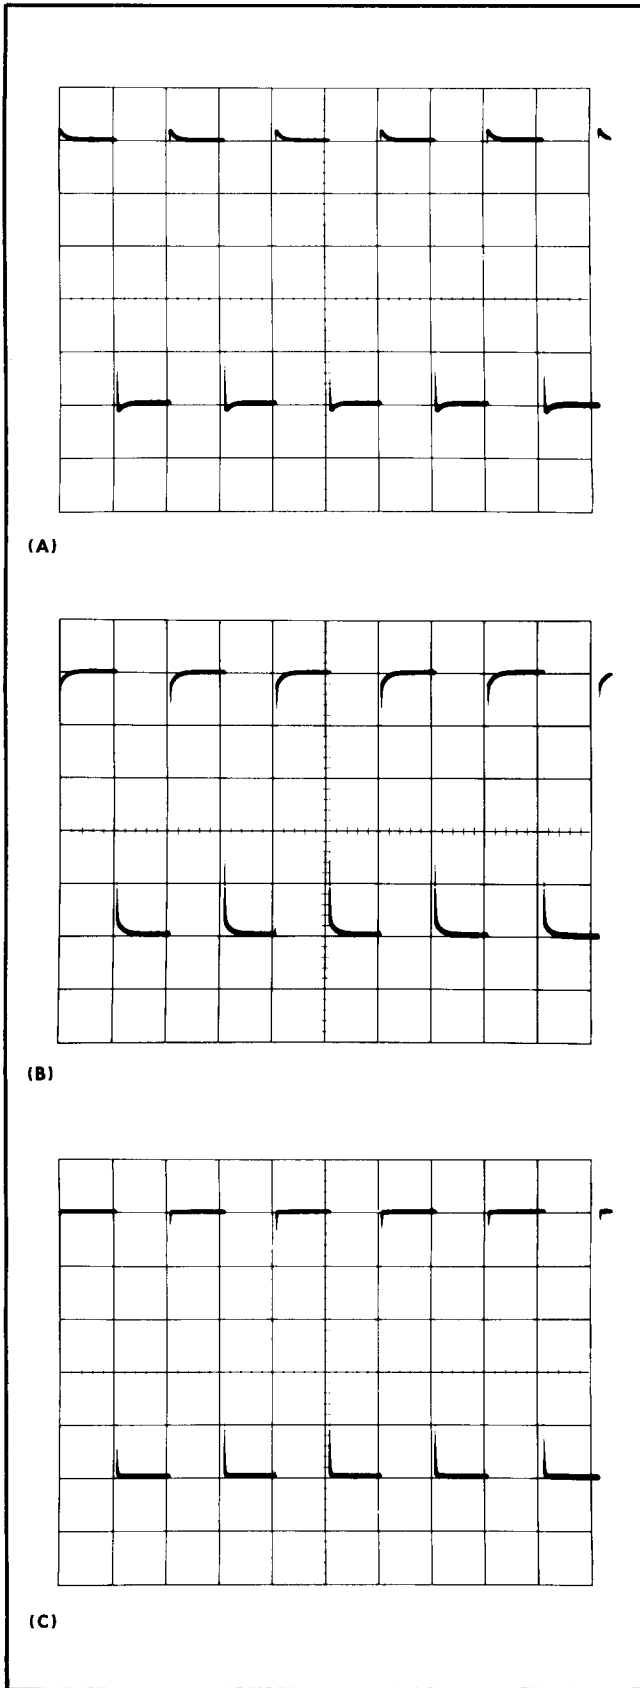

Fig. 5-23. Typical waveforms show (A) and (B) C105C misadjusted and (C) C105C correctly adjusted.
- d. ADJUST—to give optimum square wave response as shown in Fig. 5-23, at each of the Calibrator and VOLTS/DIV switch positions shown in Table 5-5.